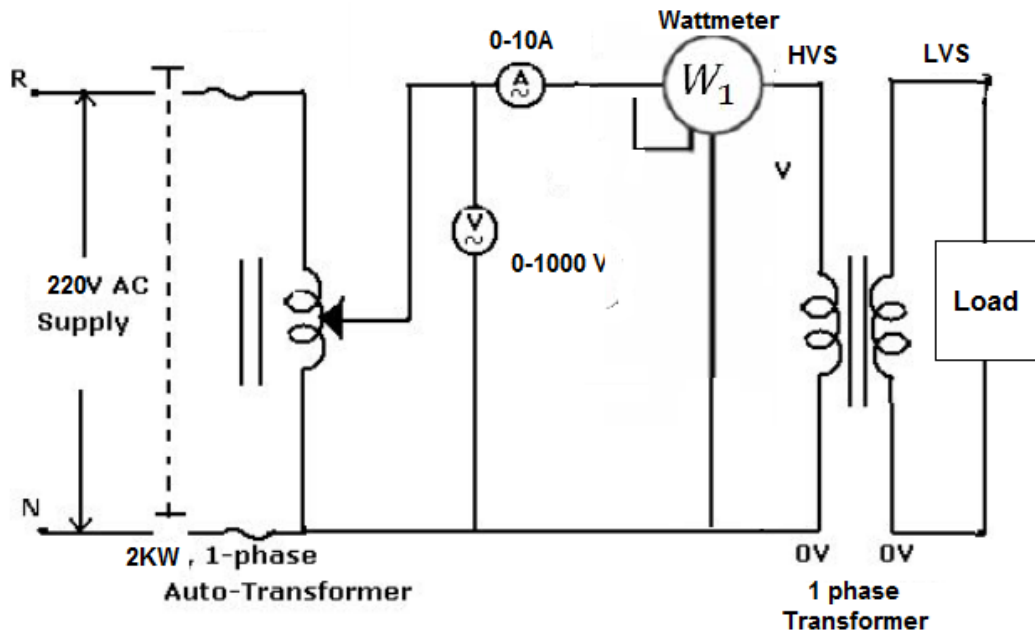

Figure 3: Connection Diagram for Load Test.
1. Make the connections as the circuit diagram in Figure 3.